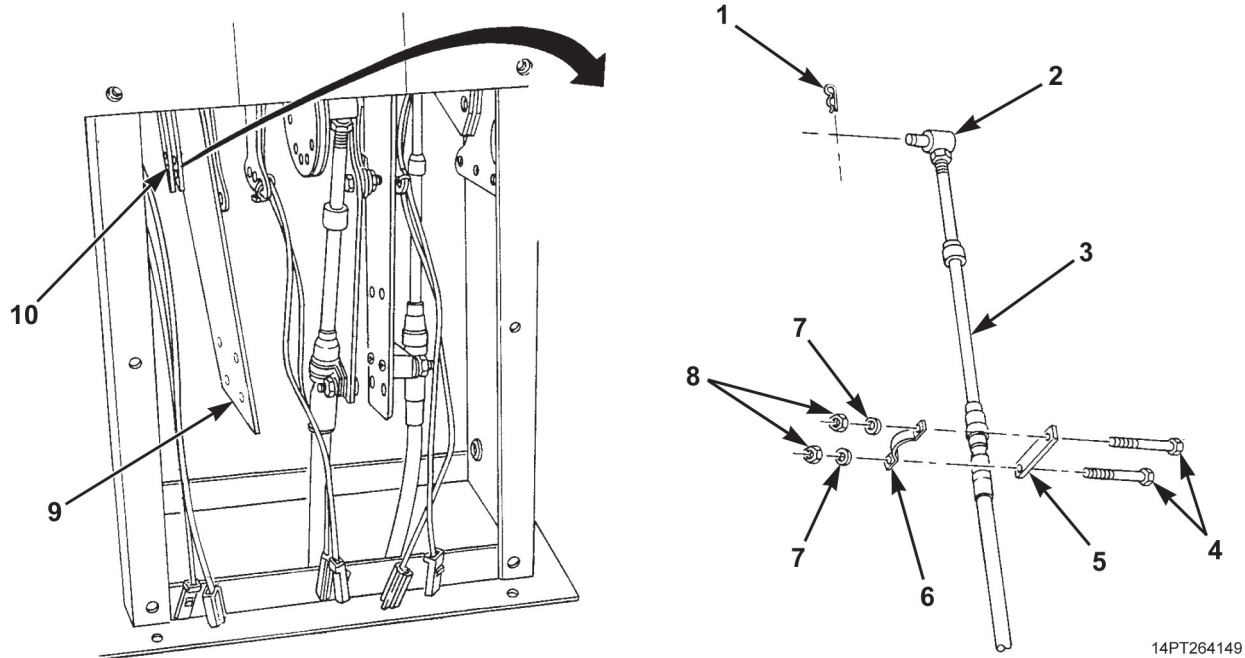

Figure 3. Transmission Shift Cable and Components Removal.
6. Tag transmission shift cable (Figure 3, Item 3).
7. Remove two nuts (Figure 3, Item 8), washers (Figure 3, Item 7), screws (Figure 3, Item 4), clamp (Figure 3, Item 6), and spacer (Figure 3, Item 5) from bracket (Figure 3, Item 9).
8. Remove retaining pin (Figure 3, Item 1) from pivot pin (Figure 3, Item 2) and pivot pin from bracket (Figure 3, Item 10).